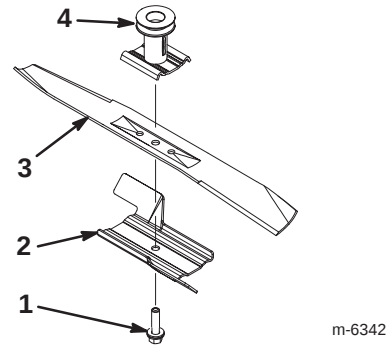

Figure 20
2. Remove the blade bolt, the accelerator, and the blade (Fig. 20).
1. Install a sharp, balanced Toro blade, the accelerator, and the blade bolt (Fig. 20).